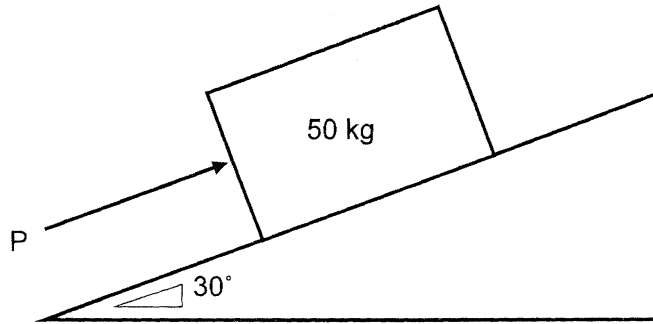

Figure 4
4. Figure 4 shows a load mass of 50 kg on an inclined surface at an angle of 30° and is acted upon with a force $P=200$ N. The coefficient of friction of the surfaces in contact is 0.25.